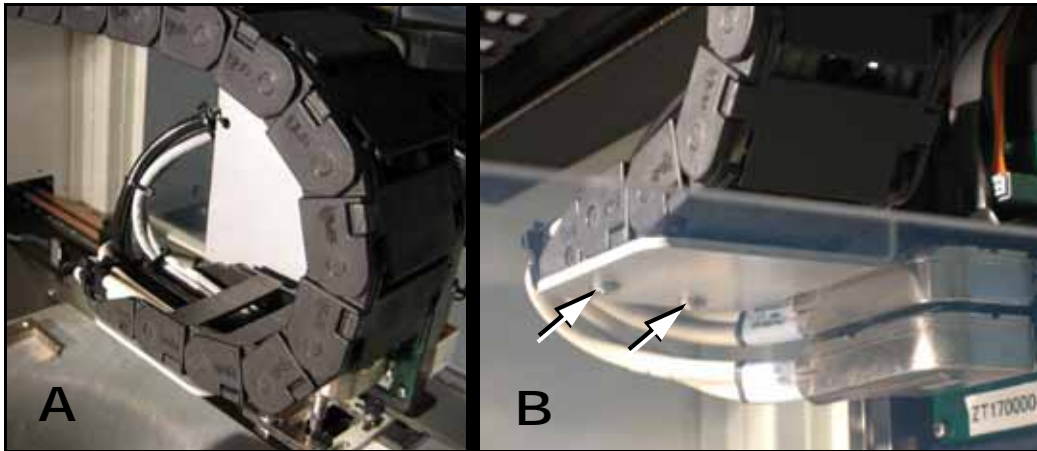

Figure 4-24: The lower end of the lower cable carrier: **A**- from above, and **B**-from below.
- 2c. Check the two screws on the lower end of the **lower cable carrier** and tighten if necessary. See Figure 4-24.